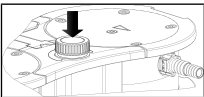

Fig. 7: Switching the pump on and off with rotary/push knob
- Switch on the pump by pushing the rotary/push knob (see Fig. 7).